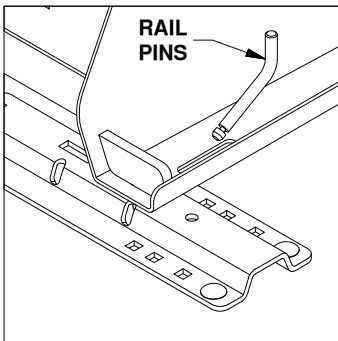

Figure B2: View of base leg.
2. Locate the 4 rail pins and hair pins. Insert each pin into the long slots in the base and through the rails. Lock each pin into place with a hair pin, see Figure B2 & B3.